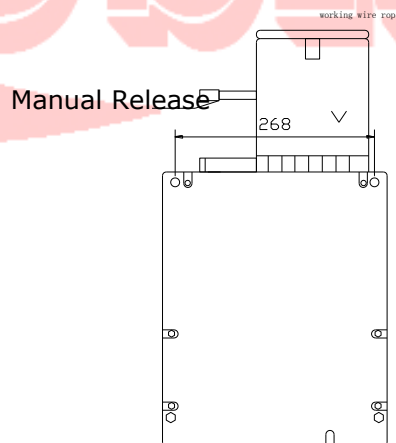

Figure 20 Emergency Descent
- Take the control lever (1) from the carrying handle, insert it through the brake release point and raise it. (**See Figure 20**)